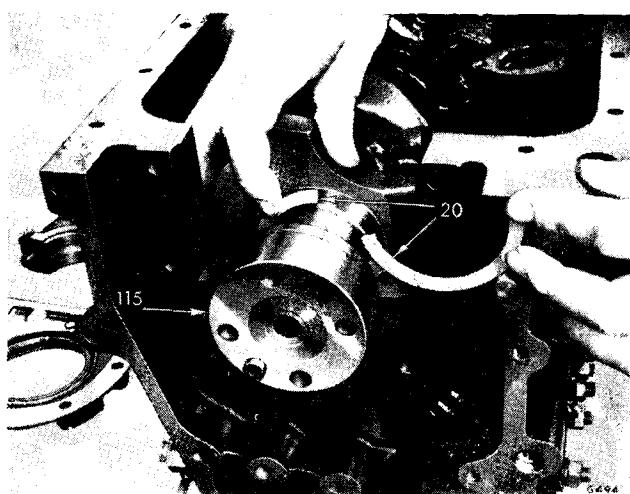

Fig. 19. Inserting thrust washers
Placing the white metal face of each thrust washer against a thrust face of the crankshaft, slide both thrust washers (20) into position (Fig. 19).